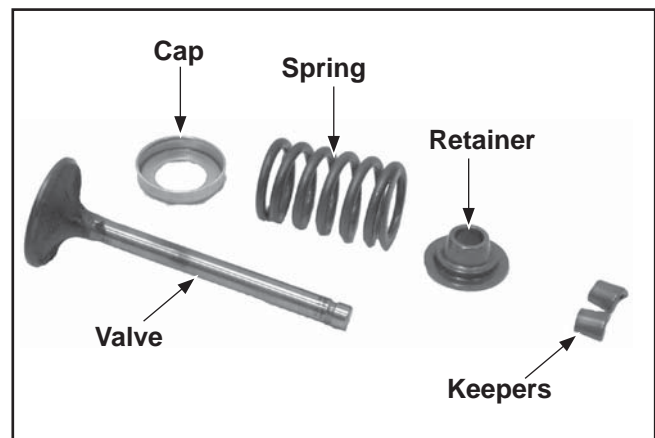

**Figure 8-32. Removing Valves with Valve Spring Compressor.**
2. Compress the valve springs using a valve spring compressor. See Figure 8-32.